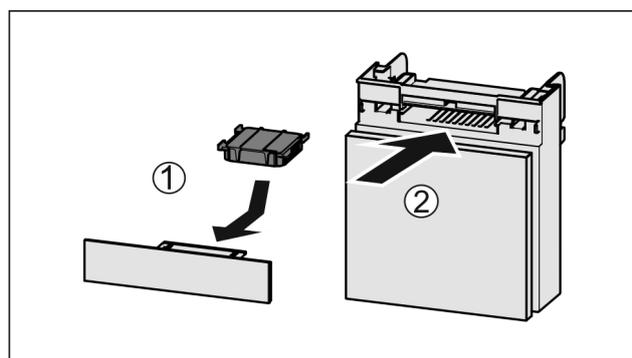

Fig. 140
- ▶ Insert the carbon filter as shown in the diagram Fig. 140 (1).
- ▶ Push the compartment in Fig. 140 (2).